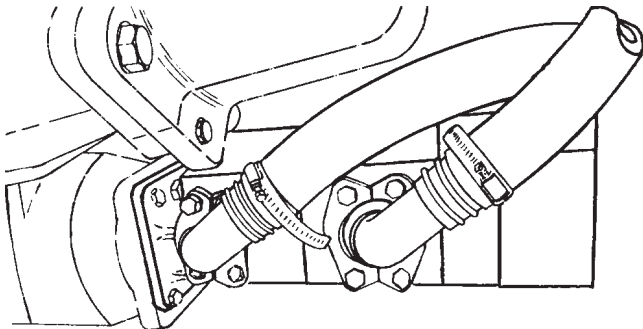

FIGURE 7.5
- (a) Flanged fittings with barbed elbows attach to the suction (right) side of pump. See Figure 7.5.